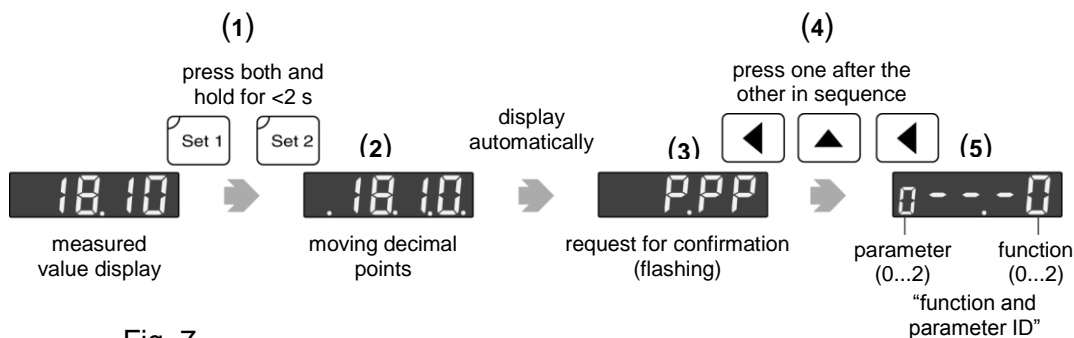

Fig. 7
<p>* hold for &lt;2 s: depress the key(s) until the decimal points on the measured value display begin to move (see fig. 7 (2))</p> <p>** hold for &gt; 2 s: depress the key(s) until the “PPP” release code appears (see fig. 7 (3)).</p>
(see fig. 7)